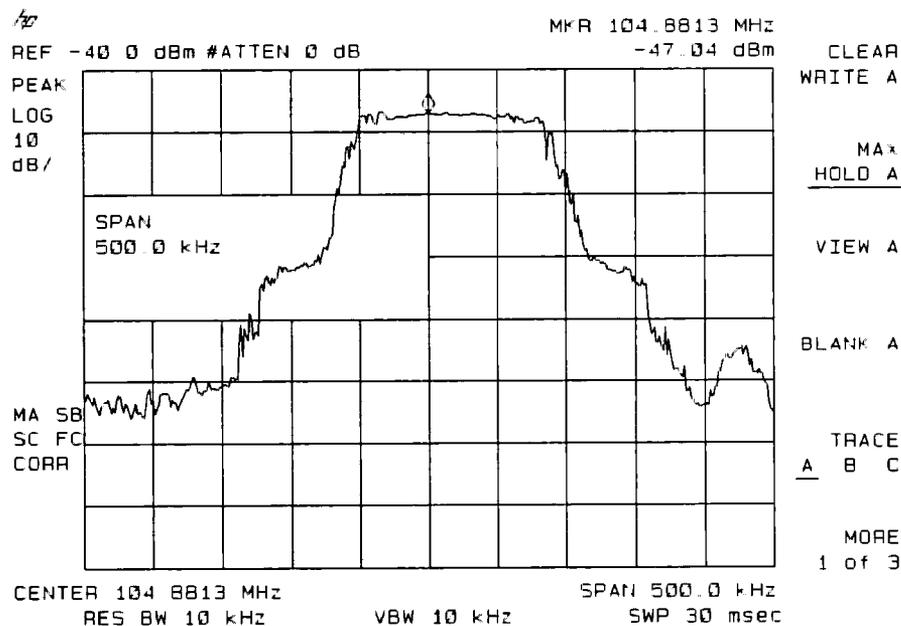

Figure 6-9. Viewing an Unstable Signal Using Max Hold A
5. To measure the excursion of the signal, press **TRACE**, **MAX HOLD A**. As the signal varies, maximum hold maintains the maximum responses of the input signal, as shown in Figure 6-9.